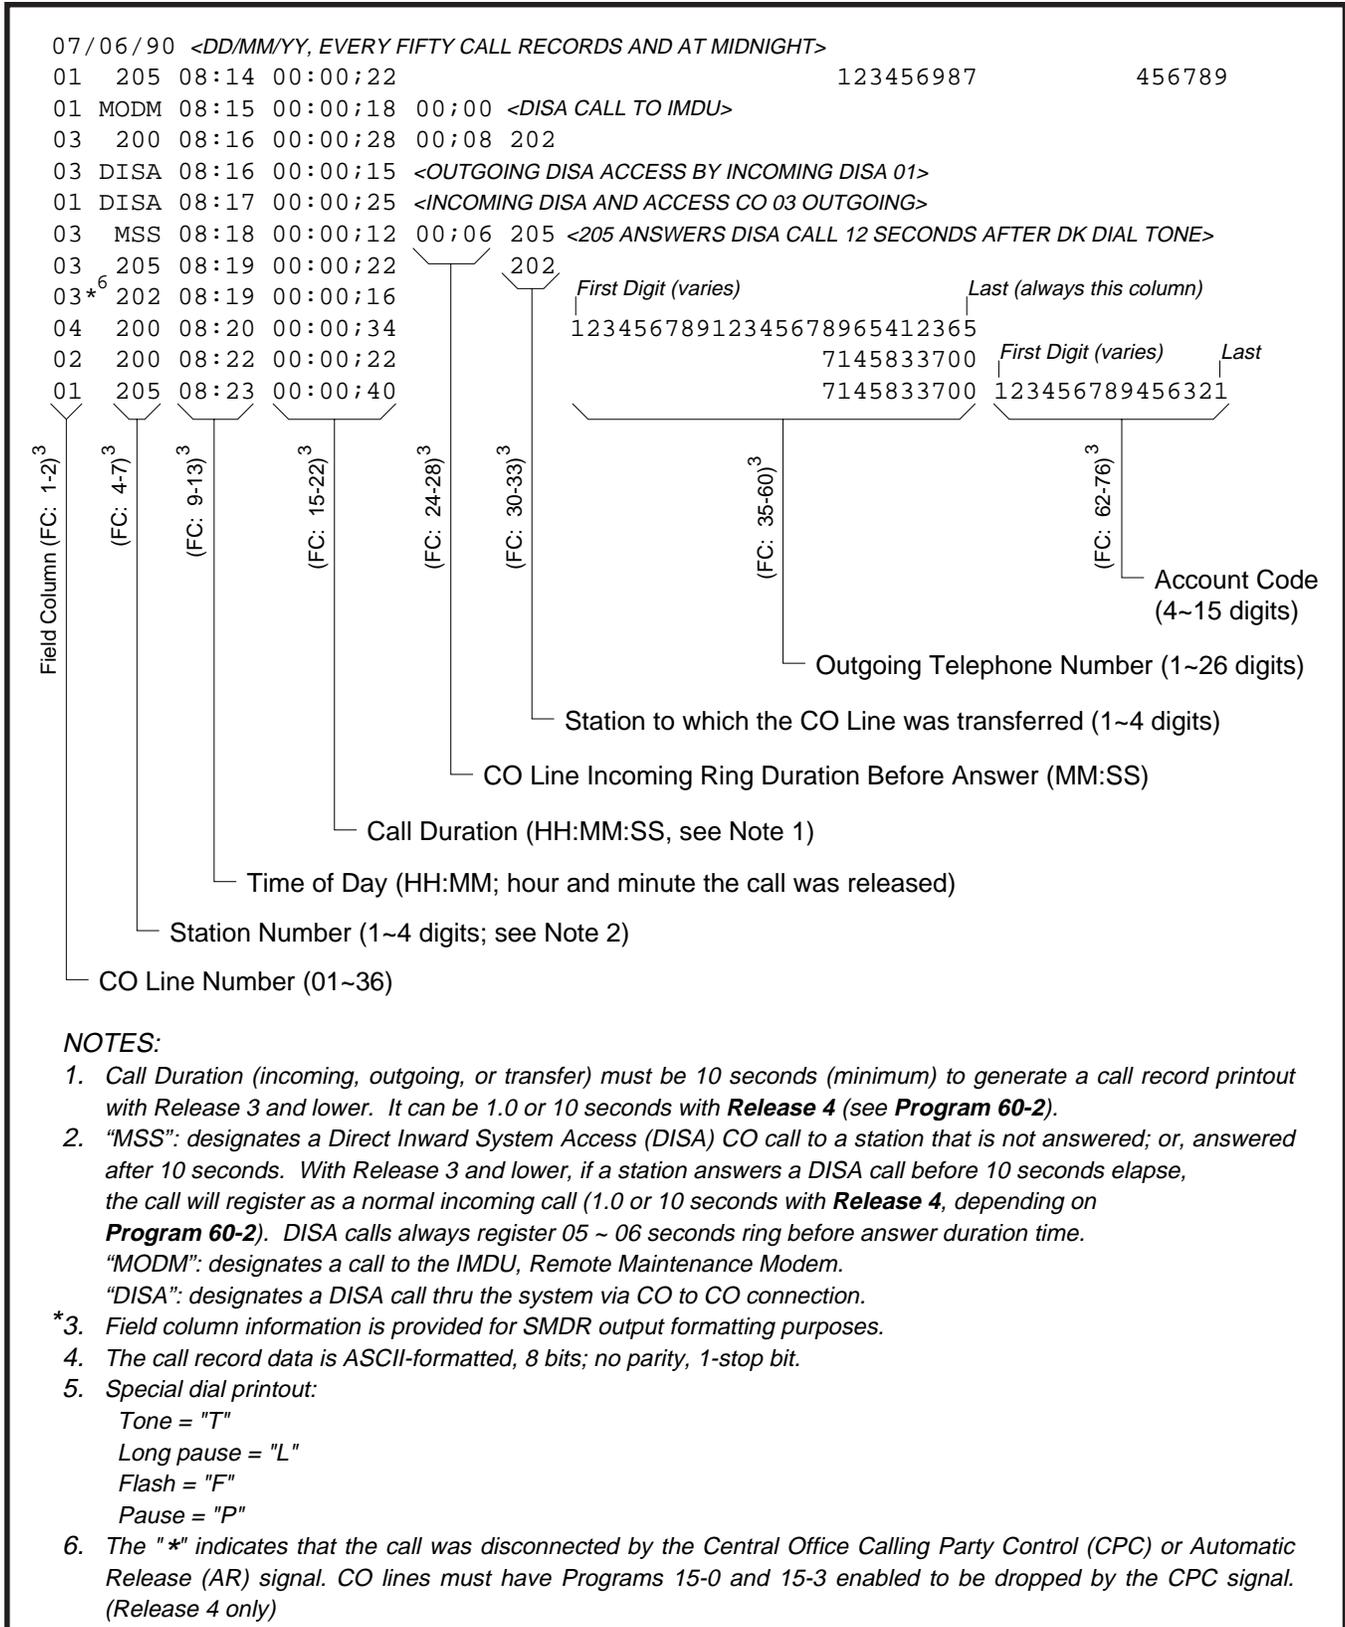

FIGURE 8-22
8.00 An SMDR printer or call accounting device may be connected to the system to provide a hard-copy record (Figure 8-22) of station activity. The STRATA DK system can record incoming, outgo-
8.02 Figure 8-22 shows a sample SMDR printout and describes the contents of each column of the printout. The following examples show several call record samples and describe the sequence of events which occurred to generate the call records.